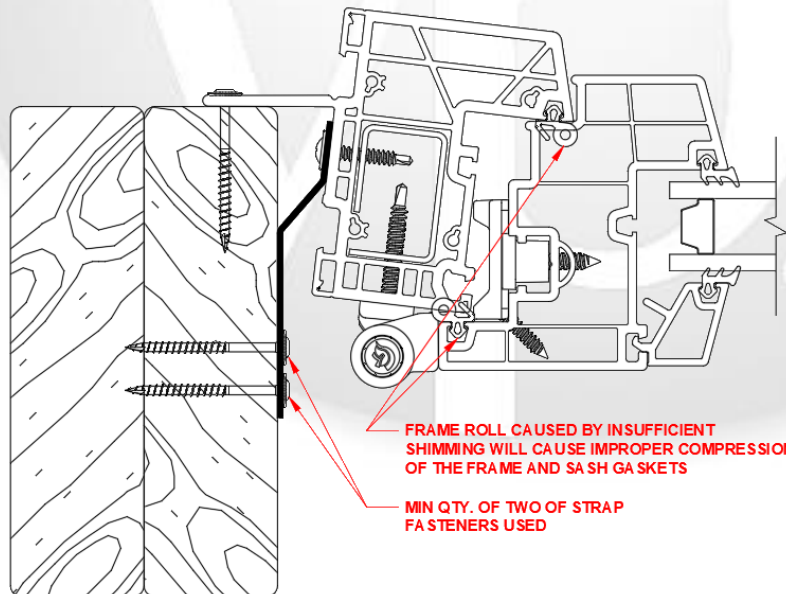

Figure 14 Jamb View: Nail Flange & Steel Strap Window with Frame Roll
- III. Below is an example of a nail flange window with steel strap that is shimmed incorrectly and is experiencing frame roll. (See Figure 14)